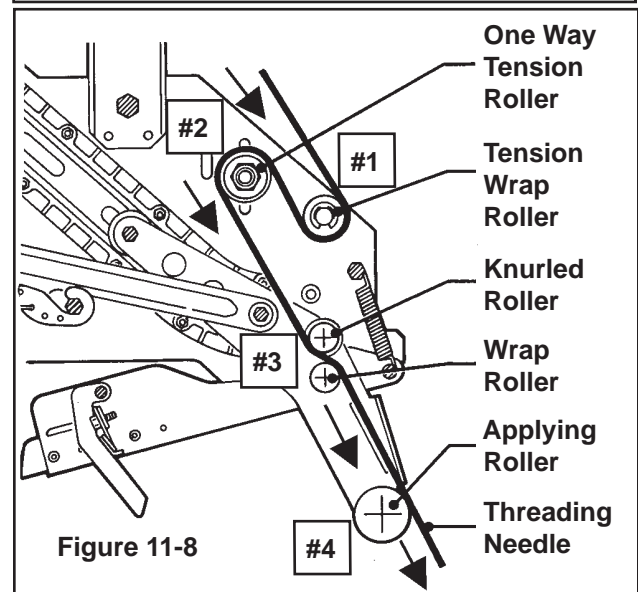

Figure 11-8
- Put a tape roll on the drum and thread the tape through the unit as shown on the label in the same manner as for the top unit (Figure 11-8).